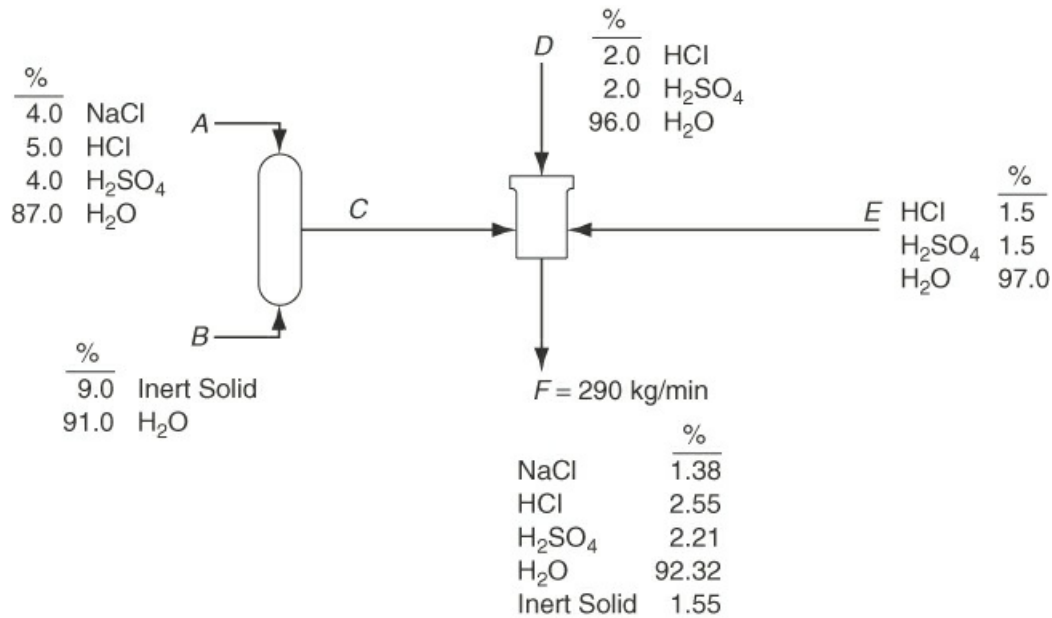

Figure P5.2.6
***5.2.6 Several streams are mixed as shown in Figure P5.2.6. Calculate the flows of each stream in kilograms per second.